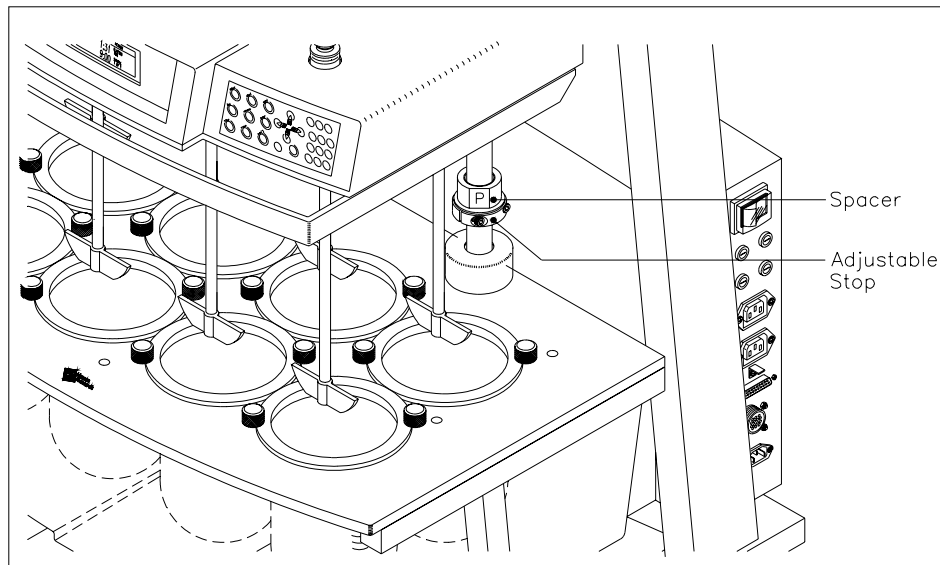

Figure 4-14: Setting Adjustable Stops
6. Verify that there are no spacers installed on the guide rods. (see Figure 4-14)